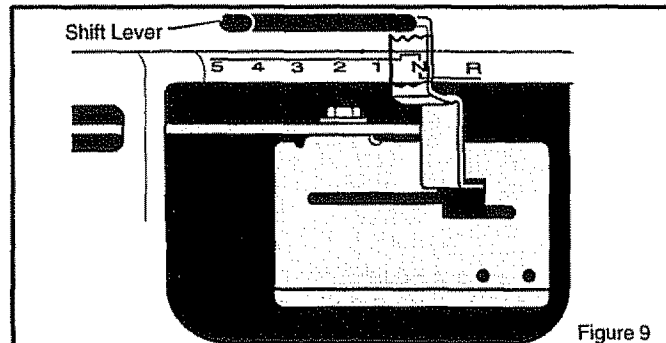

Figure 9
3. To move the **shift lever** to neutral (N) from a forward gear, pull the **shift lever** back and then move to the right (Figure 9).
4. To move the **shift lever** to a forward gear from neutral (N), pull the **shift lever** to the left and then push the **shift lever** forward.